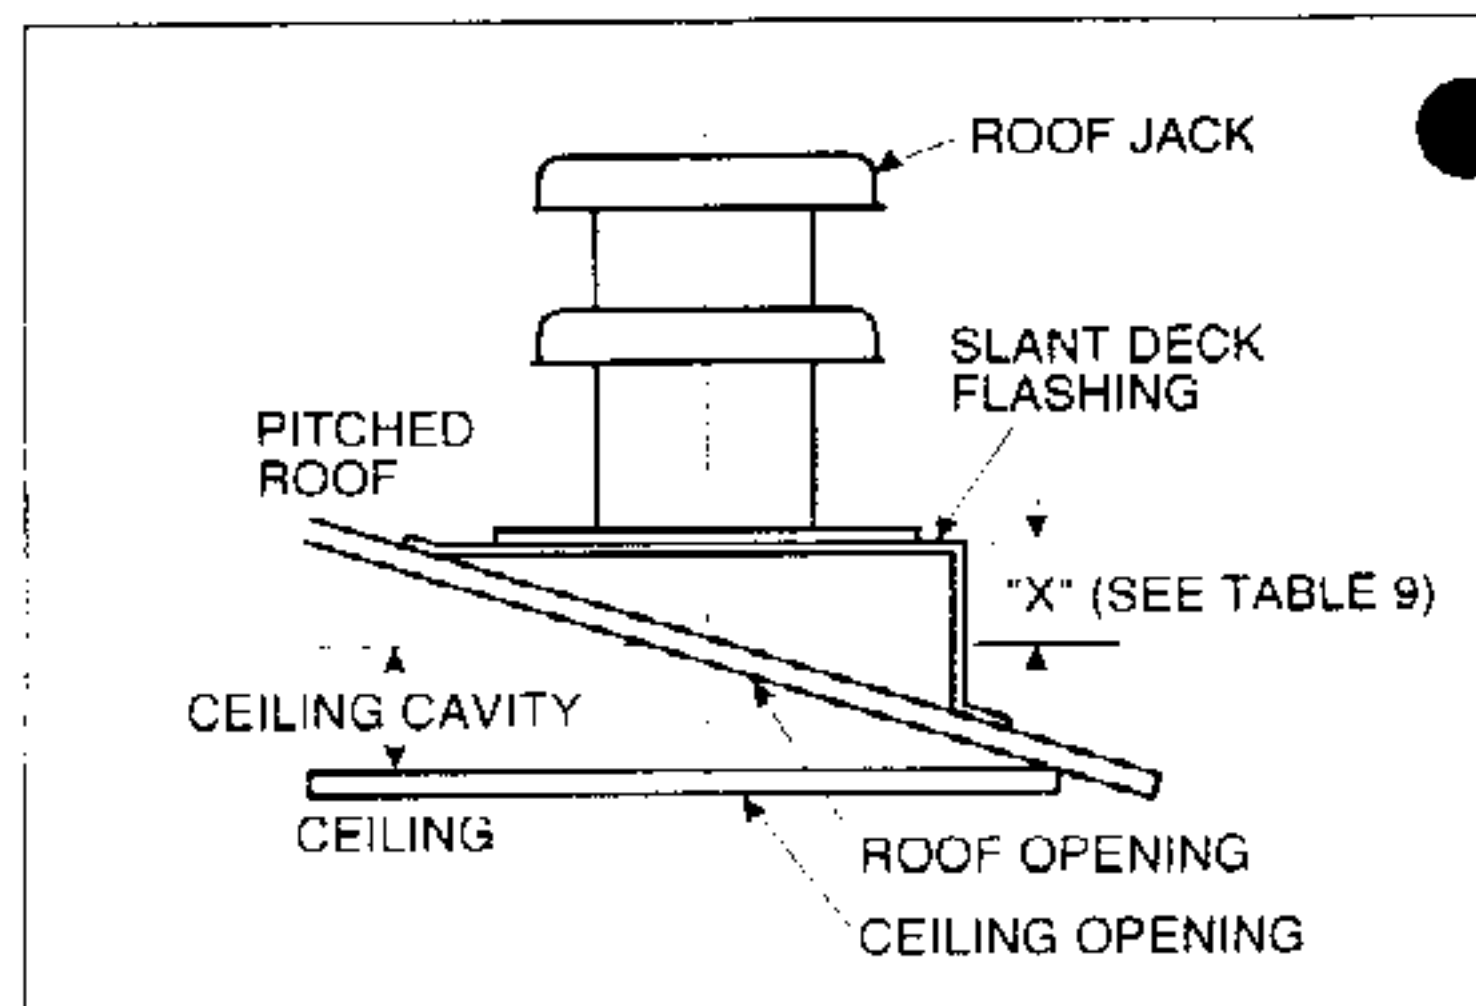

Figure 8.
- Add dimensions A + B (and X from Table 9 and Figure 8 if slant deck flashing is used). The total length of (A + B + X) will be within the minimum and maximum range of one of the Roof Jacks listed in Table 8.